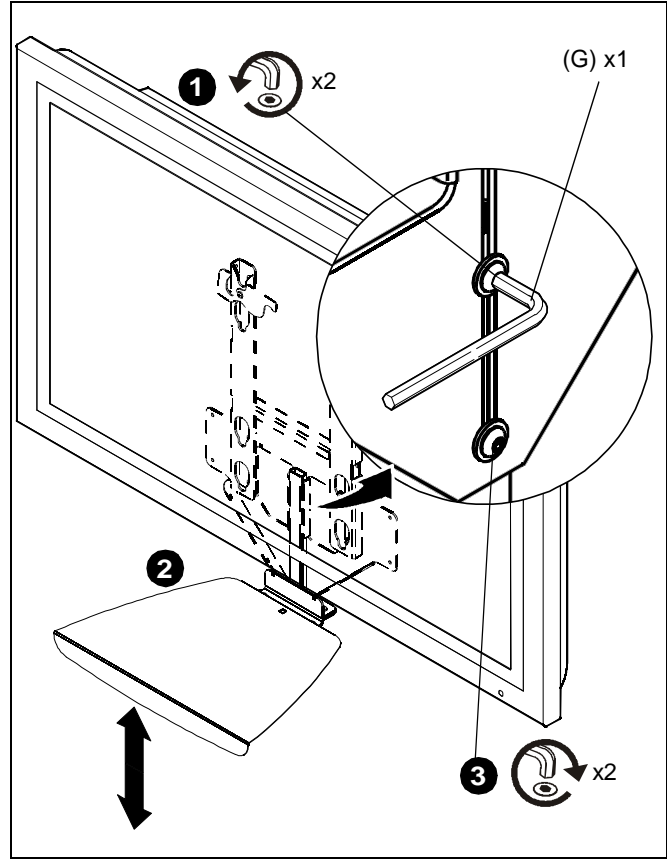

Figure 4
1. Loosen two button head cap screws securing shelf mounting bracket to support plate using 1/8" hex wrench (F). (See Figure 4)
3. Tighten two button head cap screws securing shelf mounting bracket to support plate using 1/8" hex wrench (G). (See Figure 4)